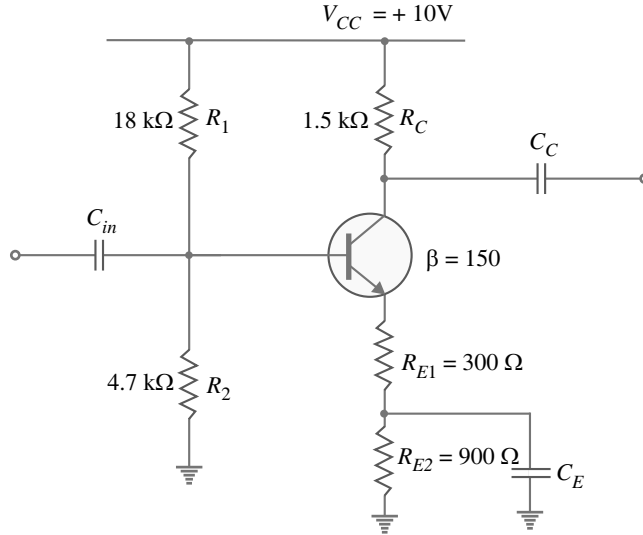

Fig. 8.49
**Example 8.27.** Determine the value of voltage gain ( $A_{v0}$ ) for the swamped amplifier shown in Fig. 8.49. What will be  $Z_{in(base)}$  for this circuit ?